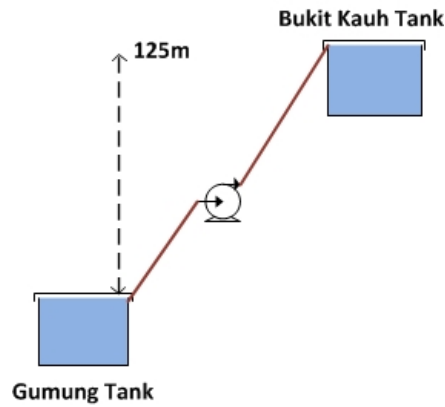

Figure 2. Suggested arrangement of pipes and pump from Gumung
- As Gumung Tank is a preferred water source, someone suggested that the pump should be moved and placed higher up the hill so that it would be closer to Bukit Kauh (Figure 2). Would this work?